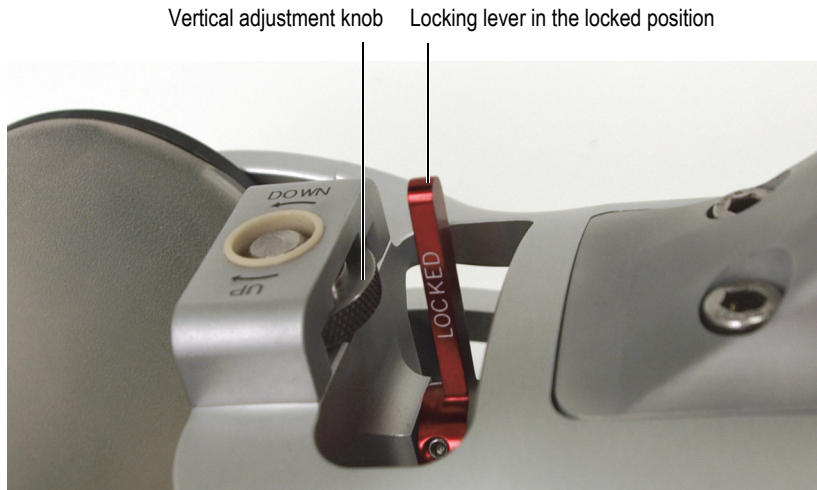

Figure 4-8 Locking the middle wheel
6. Lock the middle wheel's position by moving the locking lever to the LOCKED position (Figure 4-8 on page 65).